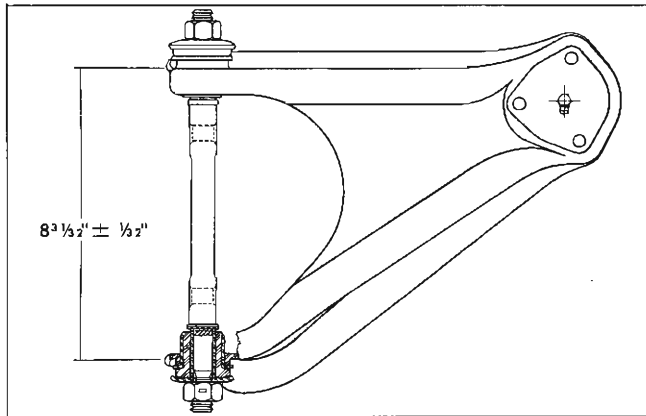
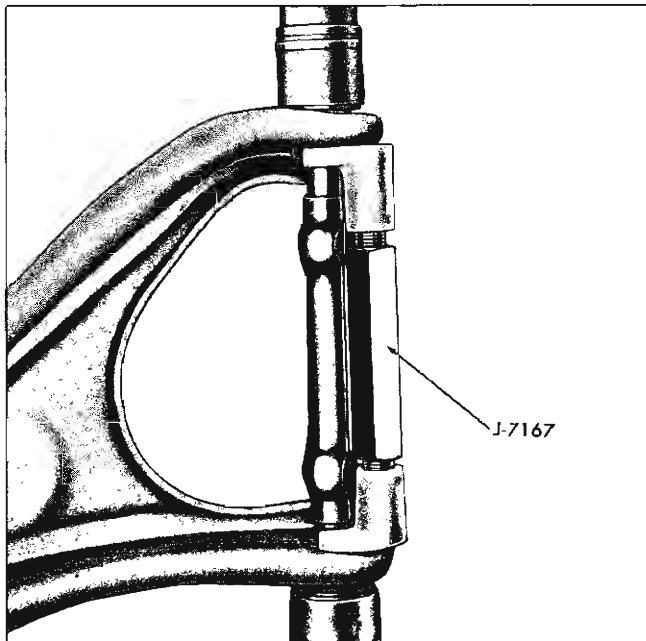

Fig. 3-21 Correct Installation of Upper Control Arm Shaft
Fig. 3-22 Install Front Upper Control Arm Bushings
a. Place tool J-7167 in position (Fig. 3-22) and expand until distance between outer faces of arm is 8-31/32" (Fig. 3-21).
d. Press bushings on control arm with arbor using large sockets for installers as shown in Fig. 3-22.
f. Line up pivot shaft by rotating shaft in bushing so that frame mounting holes in shaft line up as shown in Fig. 3-21.